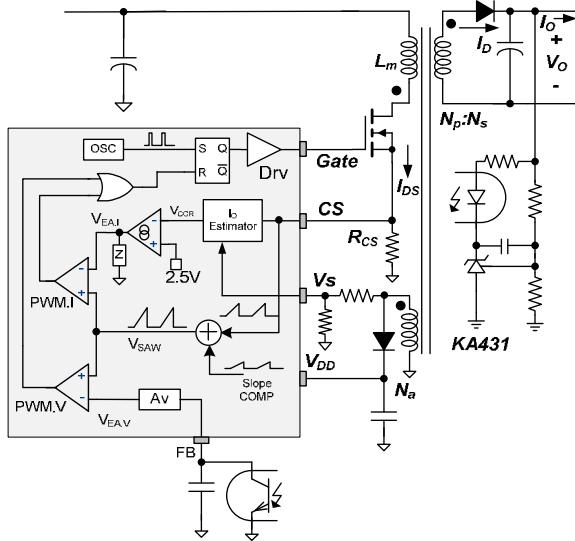
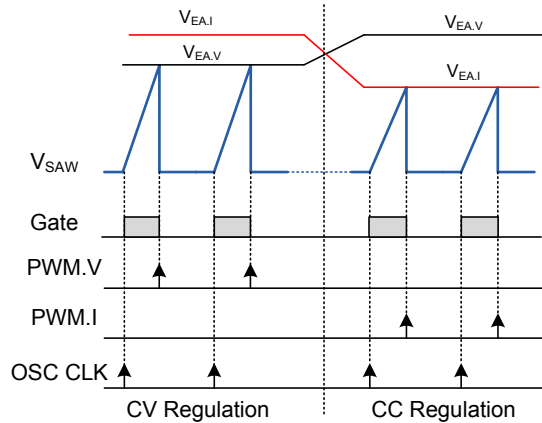

Figure 24. Internal PWM Control Circuit
Figure 25. PWM Operation for CC and CV
Figure 24 shows the internal PWM control circuit. The Constant Voltage (CV) regulation is implemented in the same way as in a conventional isolated power supply, where the output voltage is sensed using a voltage divider and compared with the internal 2.5 V reference of shut regulator (KA431) to generate a compensation signal. The compensation signal is transferred to the primary side using an opto-coupler and scaled down through an attenuator, Av, generating VEA,V signal. Then, the error signal VEA,V is applied to the PWM comparator (PWM.V) to determine the duty cycle.
The two error signals, VEA,I and VEA,V, are compared with an internal sawtooth waveform (VSAW) by PWM comparators PWM.I and PWM.V, respectively, to determine the duty cycle. Figure 24 shows the outputs of two comparators (PWM.I and PWM.V) combined with OR gate and used as a reset signal of flip-flop to determine the MOSFET turn-off instant. Of VEA,V and VEA,I, the lower signal determines the duty cycle, as shown in Figure 25. During CV regulation, VEA,V determines the duty cycle while VEA,I is saturated to HIGH. During CC regulation mode, VEA,I determines the duty cycle while VEA,V is saturated to HIGH.